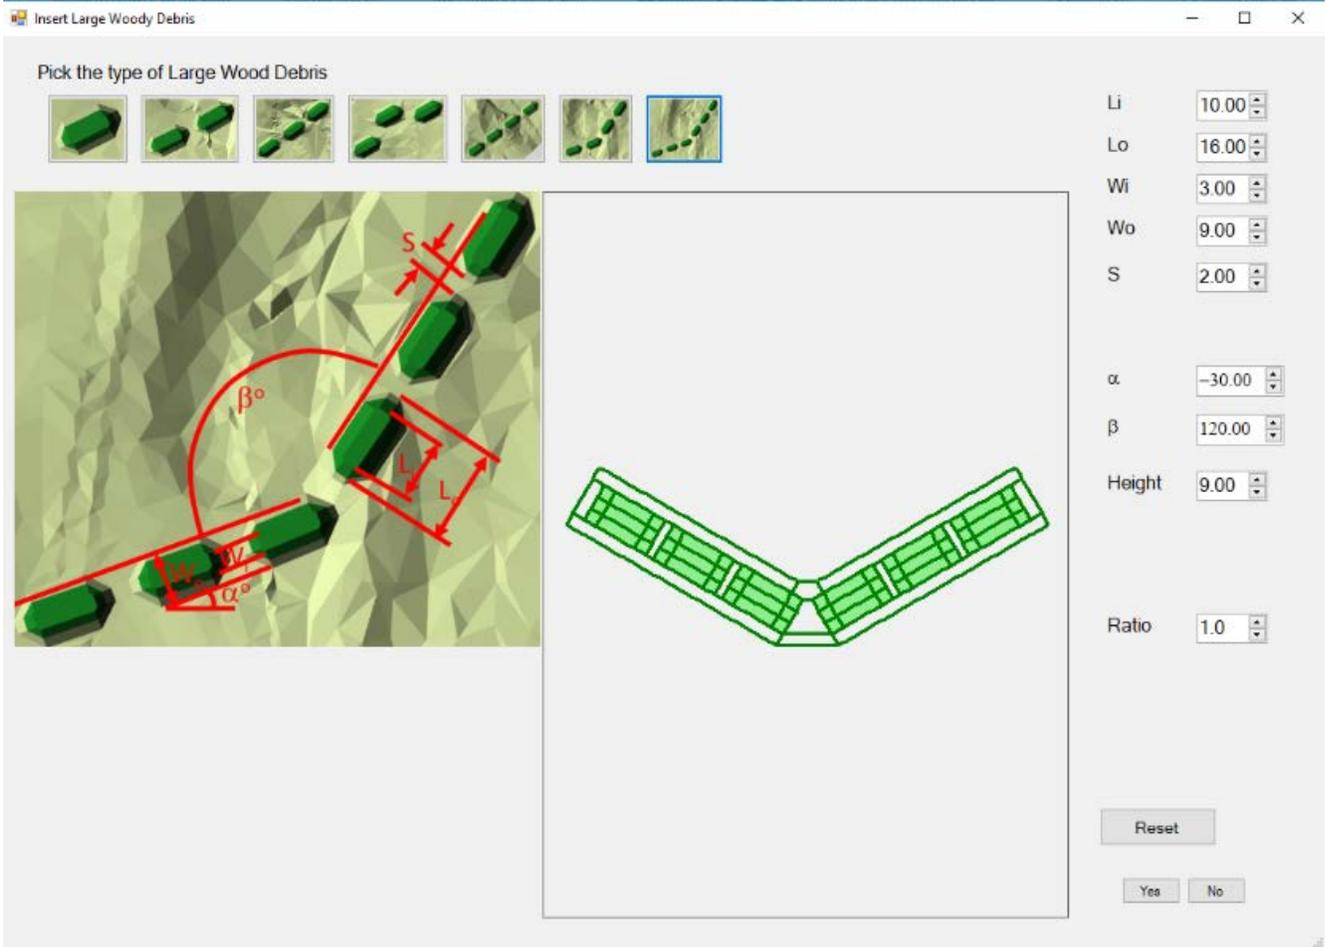

Figure 3-16. Form to pick the type of simplified large wood structure and set the dimension of the structure.
2. Click a point in the workspace where you want to insert the beginning of the structure, hold and drag the mouse to a new point where you want to insert the end of the structure. The direction from the first to second point represents the orientation of the large wood structure. The middle point of your mouse “hold and drag” represents the center of the large wood structure. A form will appear (Figure 3-16).
3. Select one of the six types of pre-defined simplified large wood structures in the form. The form will change its representing figure into the selected structure (Figure 3-16) and provide parameter input names and NumericUpDown controls for the structure.
The top face of the structure, defined by w_i and l_i in Figure 3-16, has a height defined in the form. After the mesh is created and the elevation at each mesh vertex is interpolated, you can use the Mesh>Set-LWD-Elevation to calculate the vertex elevations of the structure to match the surrounding terrain elevation and defined structure height.